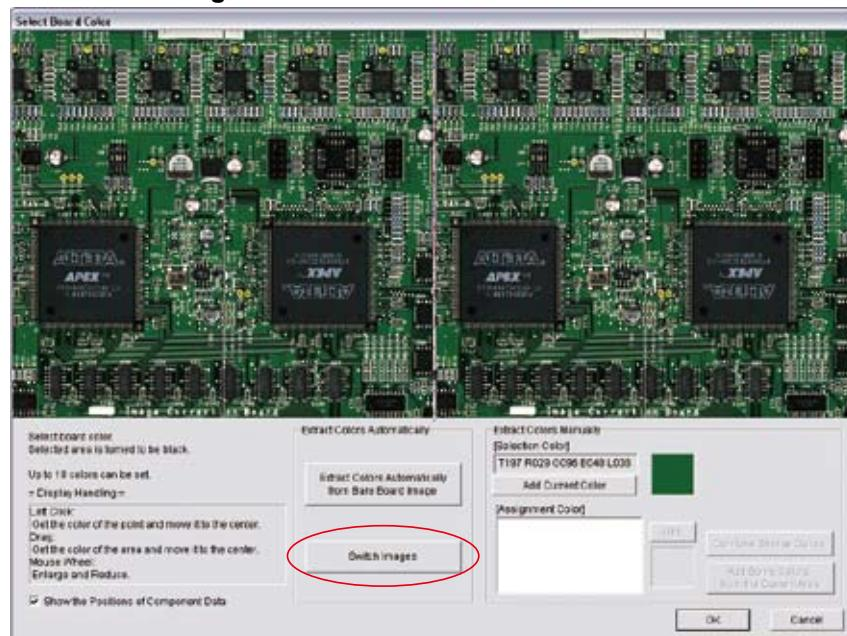
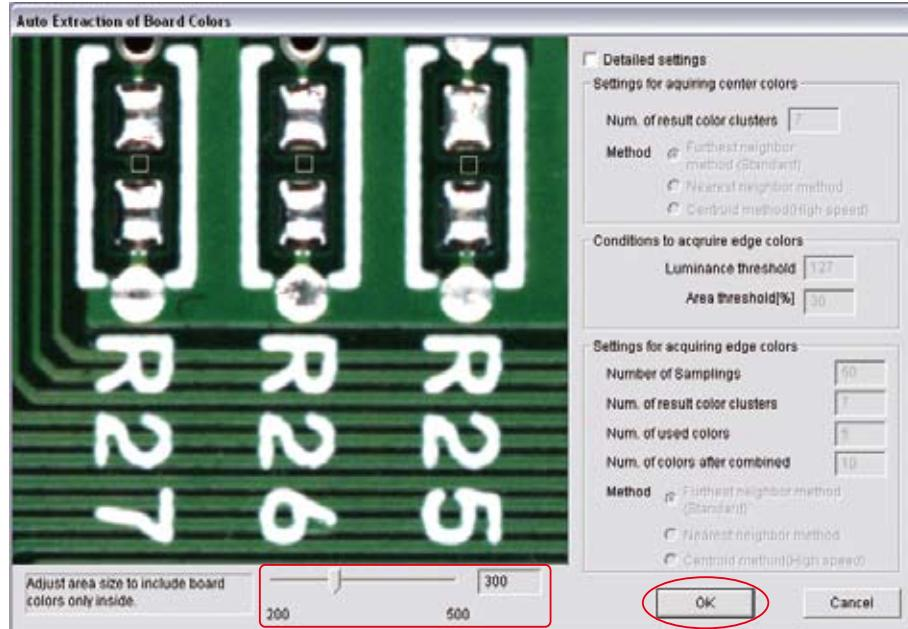

Figure 2-6 Switch Images 1
Figure 2-8 Auto Extraction of Bare PCB Image
Step3: Press **Extract Colors Automatically from Bare Board Image** in Figure 2-6, the window shown in Figure 2-8 appears.